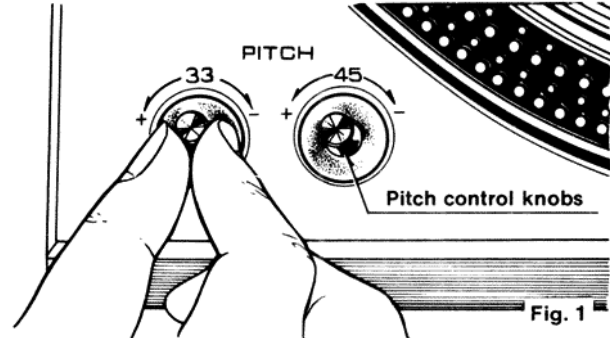

Fig. 1
## ① SPEED ADJUSTMENT (with pitch control knobs) (See Fig. 1)